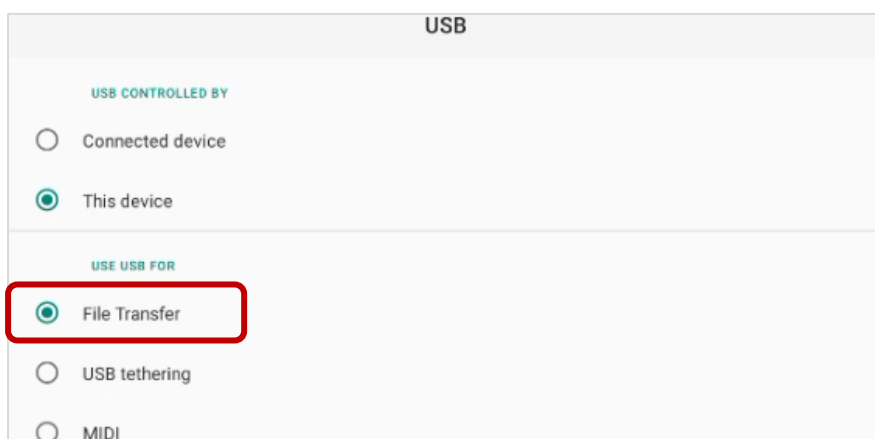

Figure 39
4. Select **File Transfer** (Figure 39) and leave the **USB settings** menu.